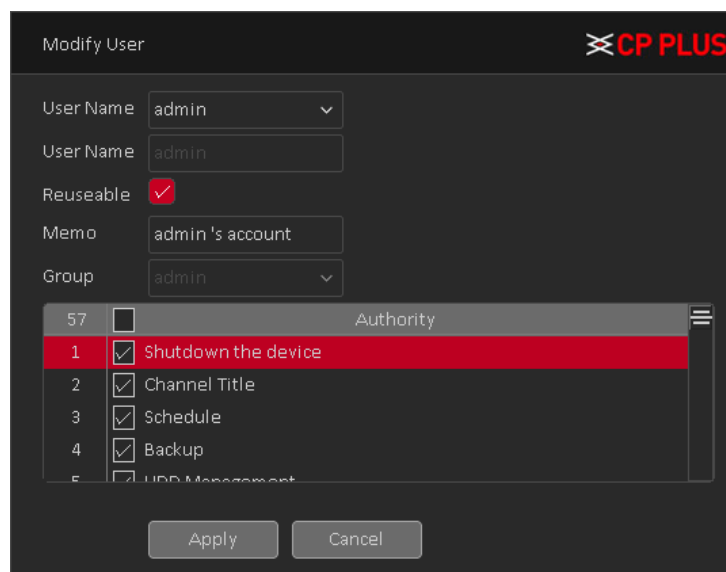

Figure 4.58
- **[Modify User]** Modify the user name has been added, whether reuse, notes, group, class, and permissions. See Figure 4.58